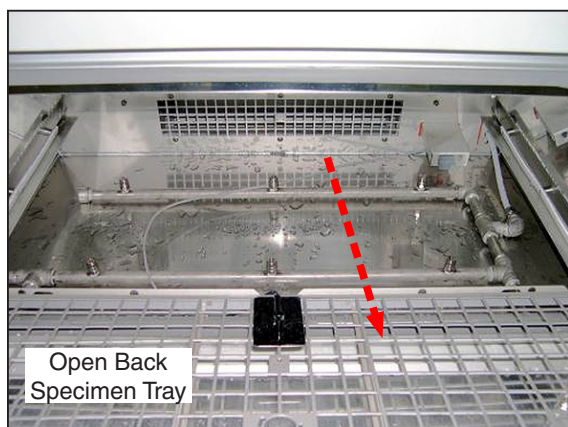

Figure 5.5a: Remove Tape. Slide the open back specimen tray all the way forward.
- Slide the open back specimen tray forward, resting it on the chamber door (Figure 5.5a).